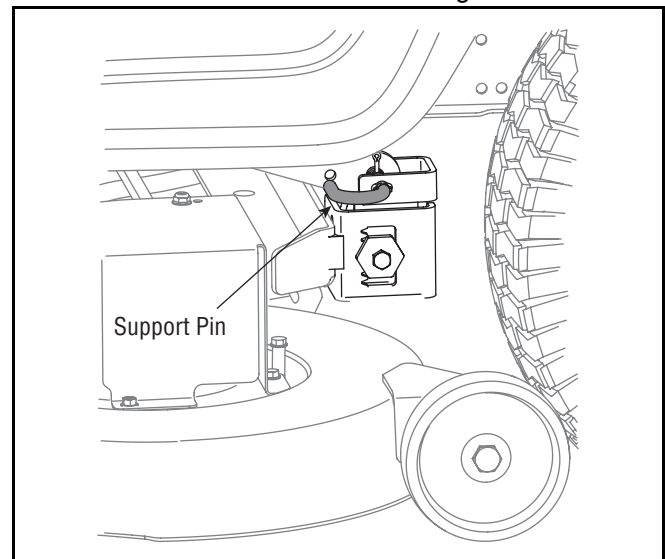

Figure 19
- Pull the deck support pin outward to release the deck from the deck lift arm. See Figure 19.